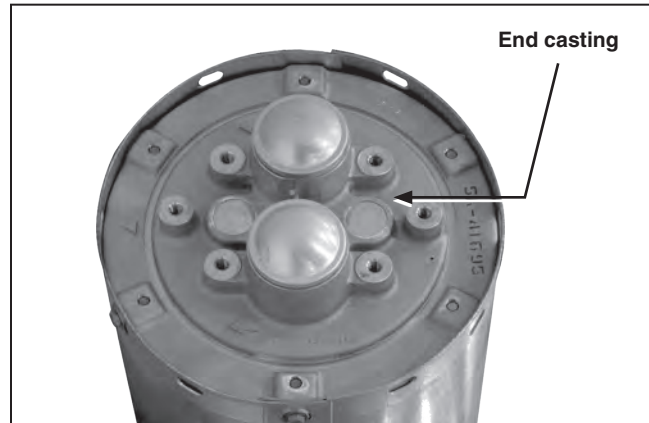

Figure 19. Wire-brushing the surface of the end casting and preparing with aluminum-connector compound.
- STEP 6.** Thoroughly wire-brush the indicator end-casting where the upper terminal pad is to be attached as well as the mating surface on the upper terminal pad, and immediately apply a liberal coating of Penetrox A or other suitable aluminum-connector compound. See Figure 19.